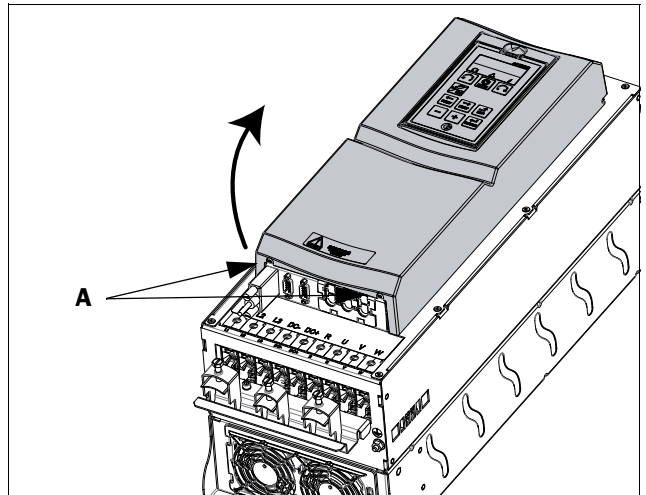

Fig. 26 Remove the front cover on frame size C2 - F2 (principle drawing).
- Loosen the two screws A (see Fig. 26) at the bottom of the cover a couple of turns (you do not have to remove the screws).